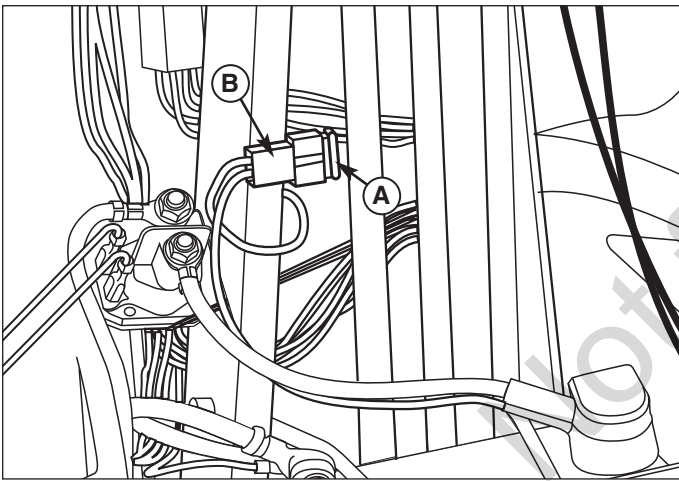
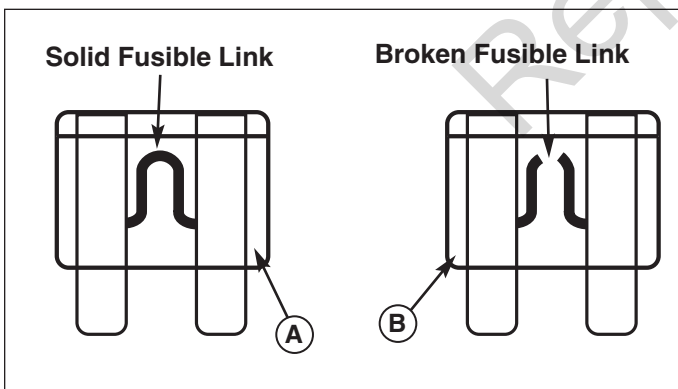

Figure 31. Fuse
Figure 32. Blade Type Fuse
1. Open the hood and locate the fuse holder (B, Figure 31) and fuse (A). Attached to the steering tower.
2. Hold the fuse holder (B) and pull out the fuse (A).
3. Inspect the fuse for a broken connection (see Figure 32). Replace fuse if connection is broken. If you are not sure if connection is broken replace fuse.
4. Hold the fuse holder (B) and insert new fuse (A) until it is seated properly.